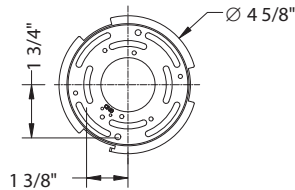

Fig. 4 Wiring
7. Connect the driver's output wires, fixture's wires and 3 CCT switch's wires together using wire connectors (B) as shown in Fig.4.